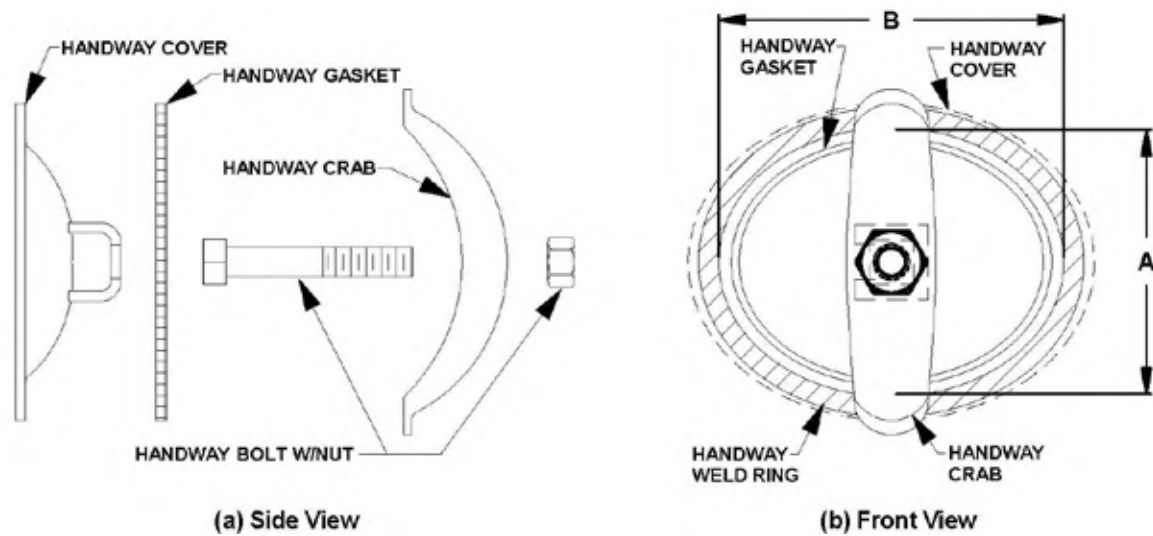

Figure 18
## ABRASIVE BLASTER SETUP PROCEDURE (SEE FIGURE 18)
1. Close the air inlet ball valve (#5). The ball valve is closed when the handle is fully turned to the position shown in Figure 18 (handle perpendicular to body). The handle tab will bottom against the ball valve body in the closed position.
- a) Measure and write down the inside dimensions "A" and "B" of the handway weld ring. See Figure 18(a).
9. Slide the handway crab bolt to the inside edge of the slot before tightening. See Figure 18(a).